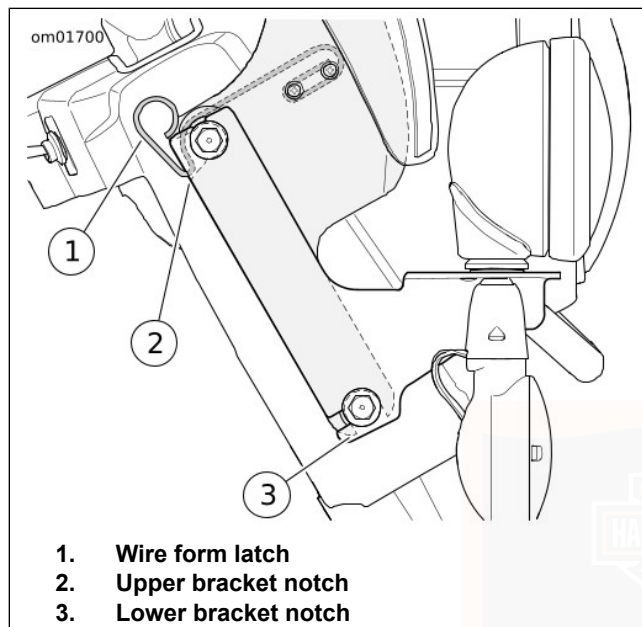

Figure 52. Removeable Windshield
1. See Figure 52. Lift the wire form latch springs on both sides of the windshield bracket.
1. See Figure 52. Firmly seat the bottom of the windshield bracket to engage the lower grommets.